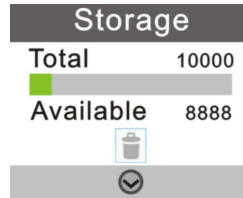

Fig 3.14 Storage Deletion
- Press < **Down** > key to move the cursor and select for storage deletion, as shown in Figure 3.14.